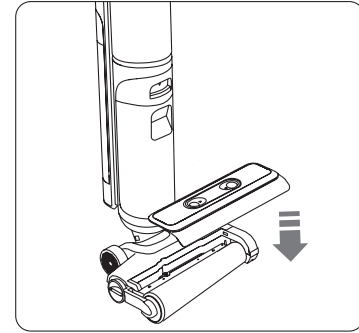

Figure 3
3. After cleaning, reinstall the Brush Roller Cover. (Fig. 3)